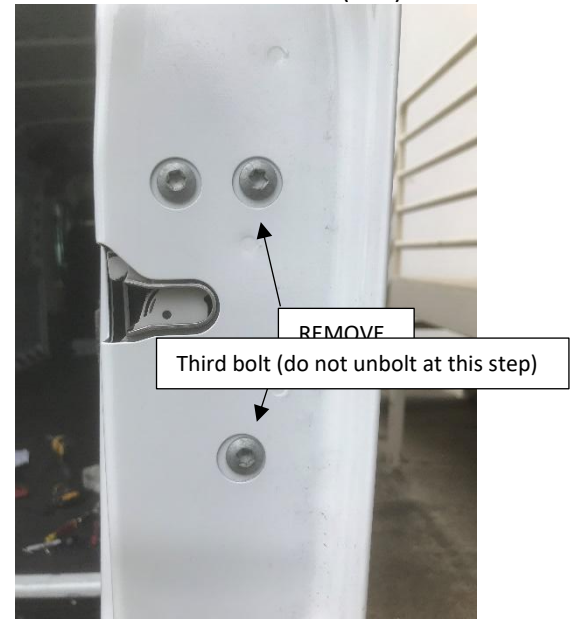

Figure 9: Inner Passenger Door Latch
20. Remove two factory torx screws that hold door latch in place. Set this hardware aside. (Figure 9)